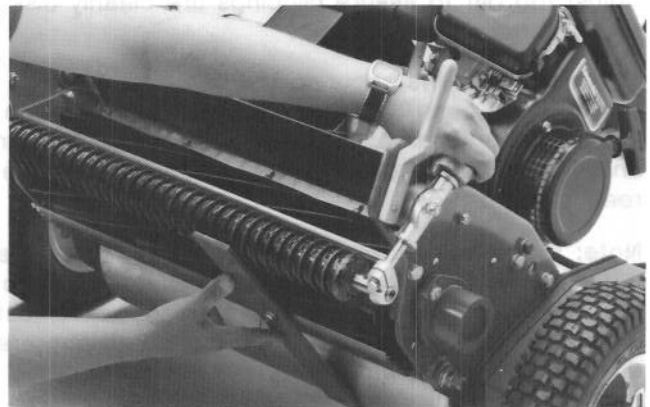

Figure 15
4. Hook screw head on cutting edge of bedknife and rest rear end of bar on rear roller (Fig. 15).